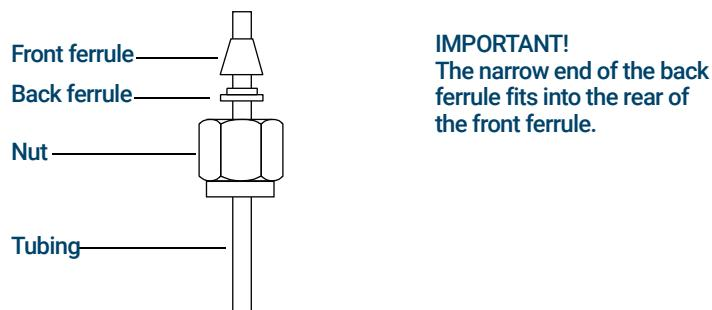

Figure 52. Swagelok nuts and ferrules
- 1 Place a Swagelok nut, back ferrule, and front ferrule to the tubing as shown in **Figure 52**.